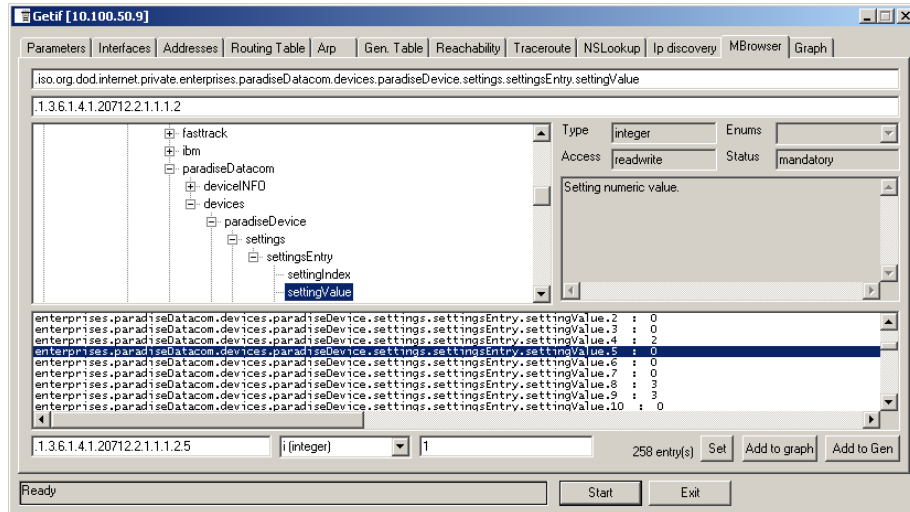

Figure 7-14: Getif MBrowser Window, Setting settingValue.5 to a Value of ‘1’
8. Observe the Mute state on the SSPA change to a “Mute On” state. See **Figure 7-14**.